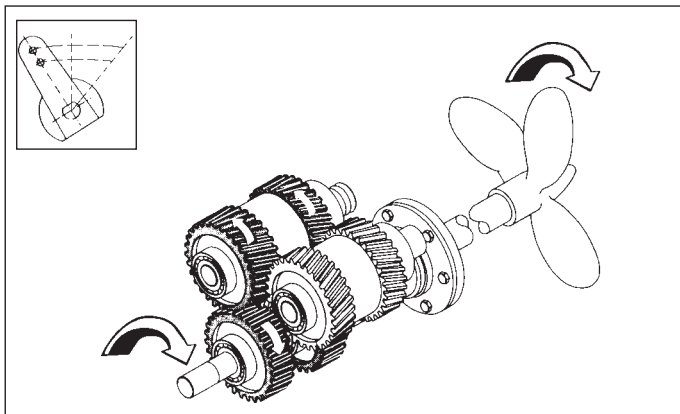

Fig. 1
There are three types of operation: **enginewise** (Fig. 1) or **counterenginewise** (2) depending on whether the output shaft rotates in the same direction as the input shaft or in the opposite direction; **neutral** (3) when the output shaft does not turn.
The selector valve lever (Pos. 8 Fig. 11-12) is positioned as shown in figure (Fig. 1).